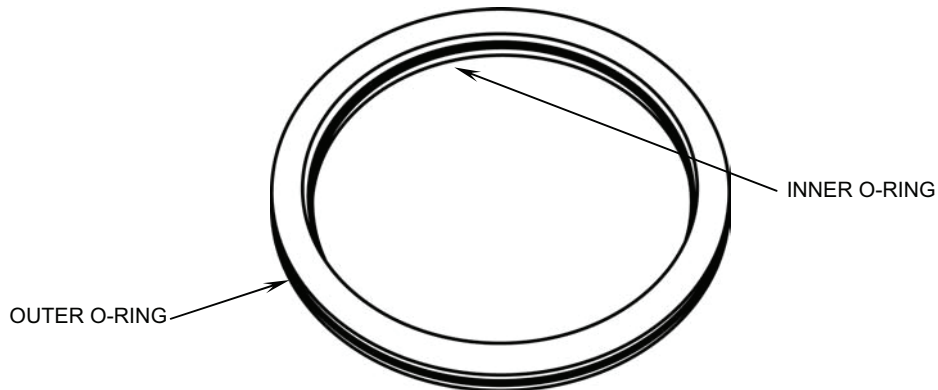

Figure 37. Spacer O-Rings.
- q. Lightly lubricate new O-rings with glycerin and install them on the spacer (see Figure 37).